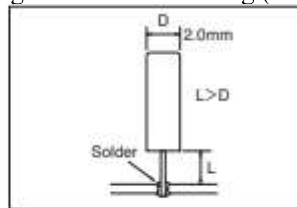

Figure 7
- (2) Always leave a length greater than 2.0mm when bending a lead after soldering (see Figure 7)